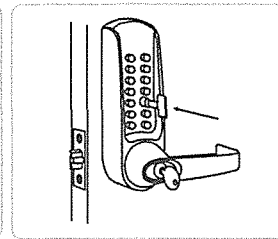

Fig 2
5. To select a button as a **code button**, push code tool over button. Press in button with tool approx 2mm and turn **clockwise 180°**. Fig 2.